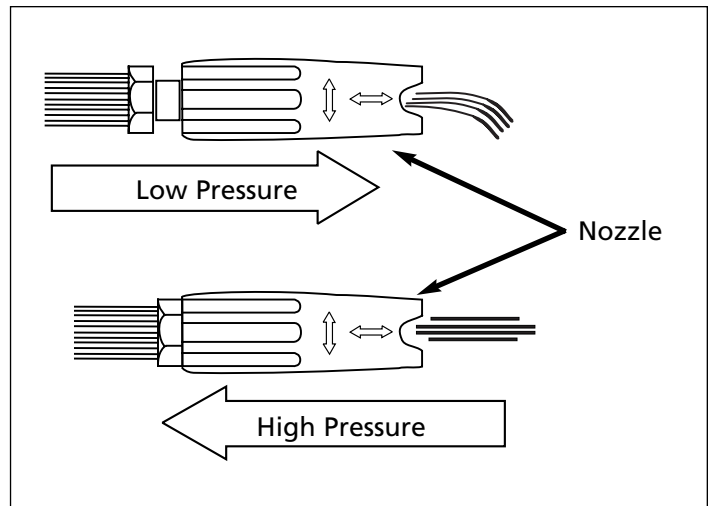

Figure 18 - Adjusting nozzle for pressure
3. Place hand around the spraying end section of the lance (the section that turns from left to right). Pull firmly and quickly away from you. (**NOTE:** Do not adjust lance while spraying.) The lance will extend 1/2" and be in low pressure (see Figure 18). Soap can only be drawn in low pressure.